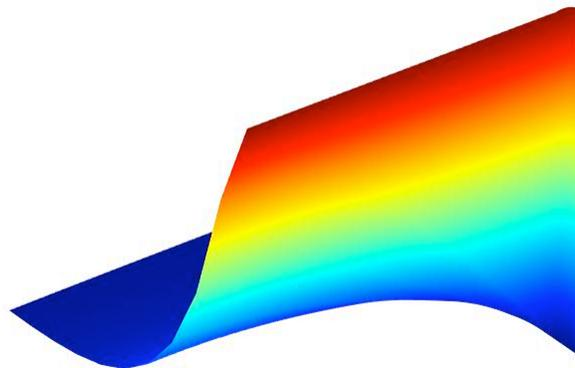

Figure 9-14. Solution of heat transfer problem, Eq. (9.34) plotted in 3D
Step 9: create a 3D plot. To see a colorful 3D plot, right click on Results, choose 2D Plot Group. Right click 2D Plot Group, choose Surface and make sure the data set chosen is Parametric Extrusion 1D. Right click again on Surface and choose Height Expression. A colorful 3D plot emerges, Figure 9.14.